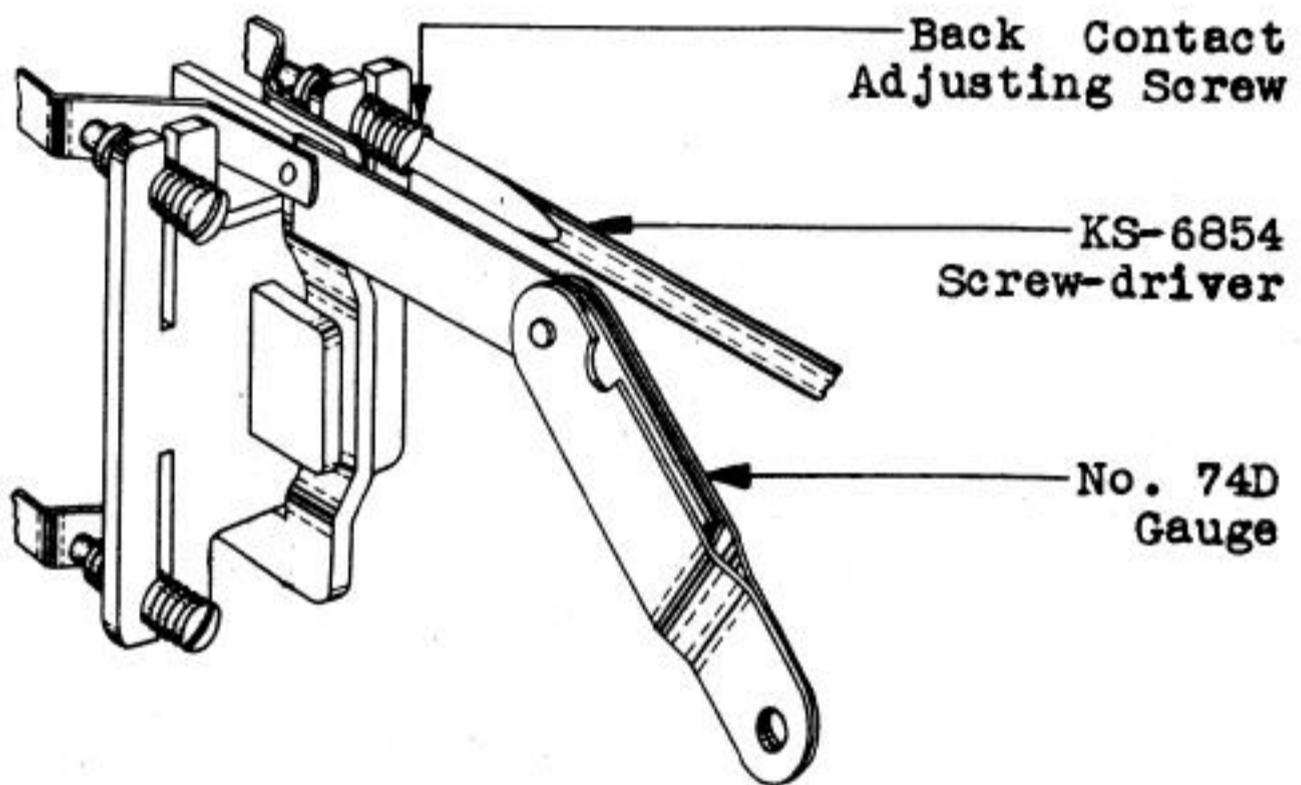

Fig. 113 - Method of Adjusting Contact Separation
(11) Contact Separation: Locate the back contact spring or stop so that the separation is at or near the minimum contact separation specified. Do this by turning the back contact adjusting screw with the KS-6854 screw-driver as shown in Fig. 113 until this requirement is met.